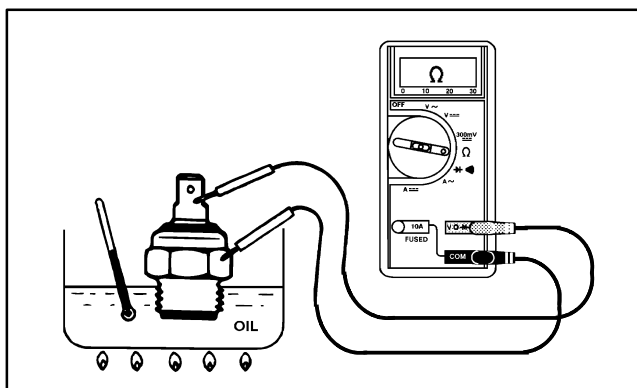

Figure 31
3. Put the end of the switch in a container of oil with a thermometer and slowly heat the oil (Fig. 31).